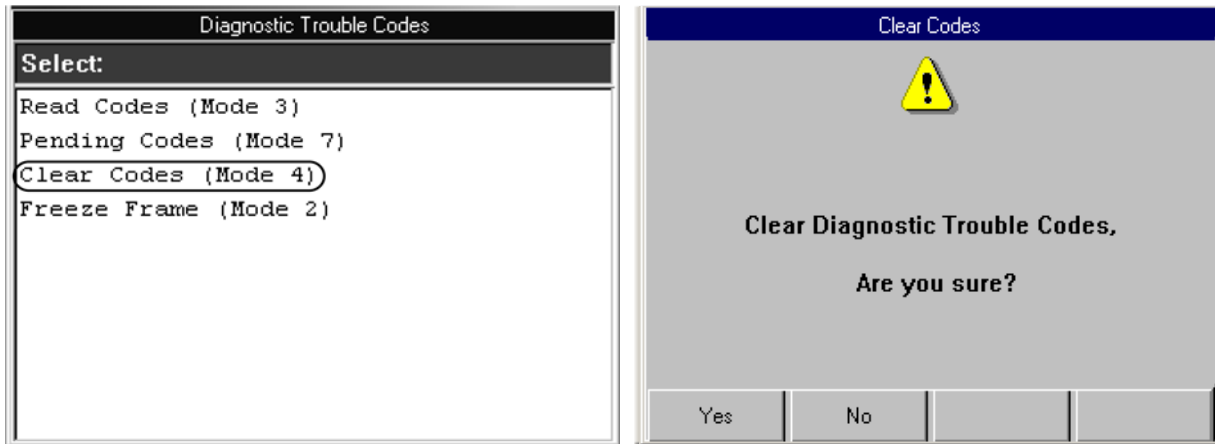

Figure 11.6: OBD II Diagnostic Trouble Codes Screen and Clear Codes Warning Screen
- 2 Select **Clear Codes** and press the **ENTER** key. This displays a warning screen, as shown in figure 11.6.